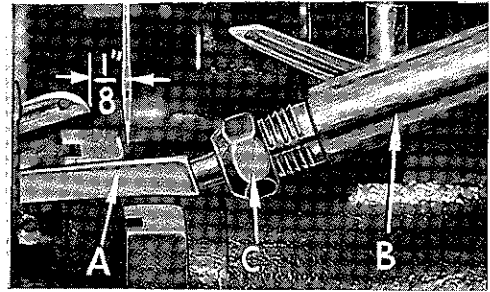

Fig. 6
At this point, insert lower looper (A, Fig. 6) into bar (B). With lower looper at left end of its stroke, set looper point  $1/8$  inch from center of needle (Fig. 6), using looper gauge No. 21225- $1/8$ . Do not have lower looper deflecting needle. Tighten nut.